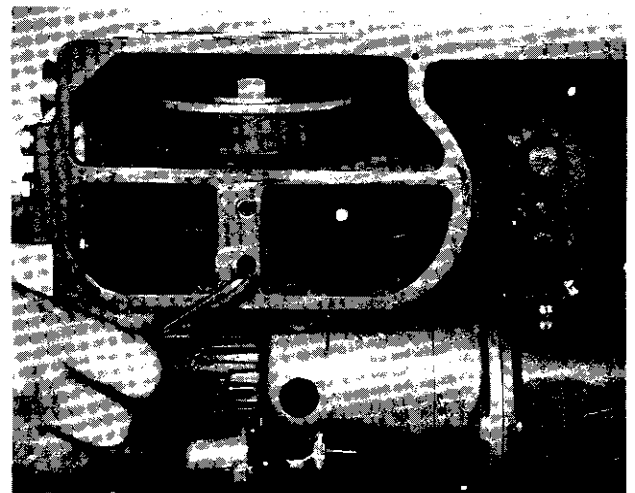

FIG. 20 – Loosening Setscrews on Right Rear Wheel Shaft
2. The right rear wheel is removed in the same manner as above, with one exception: The wheel shaft in this case is secured by two pair of screws. Each pair consists of a socket-head setscrew which bears against the wheel shaft, and a hollow lock screw which locks the setscrew. The same hex key fits both setscrew and lock screw. Insert the key in the lock screw and loosen it. (Figure 20) Then insert the key all the way in and loosen the setscrew. Raise the setscrew sufficiently to clear the wheel shaft completely, to avoid shearing the setscrew or scoring the shaft during its removal.